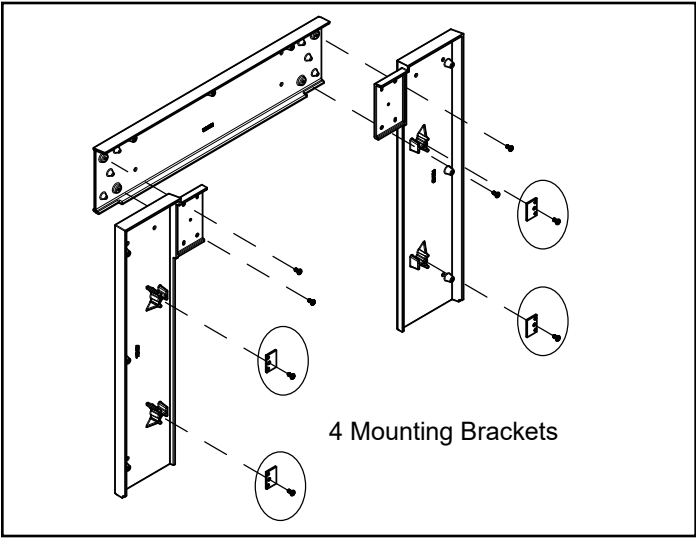

Figure 21.1
- 4. Attach the mounting brackets to the side pieces included with the kit (Figure 21.1).